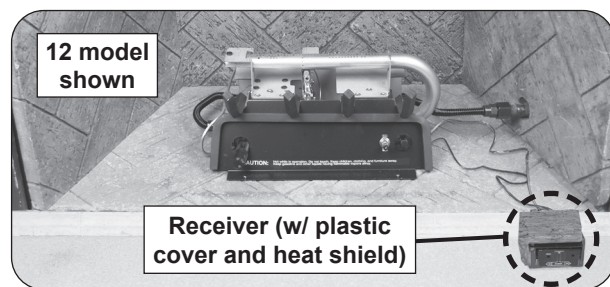

Fig. 18-3 Place remote receiver
3. **Place the remote receiver at the front right corner of the fireplace. Place as far from the burner system as possible.** See Fig. 18-3.
4. Place the plastic cover over the remote receiver with the open side facing forward to allow access to the receiver controls. Then place the decorative heat shield. See Fig. 18-3.